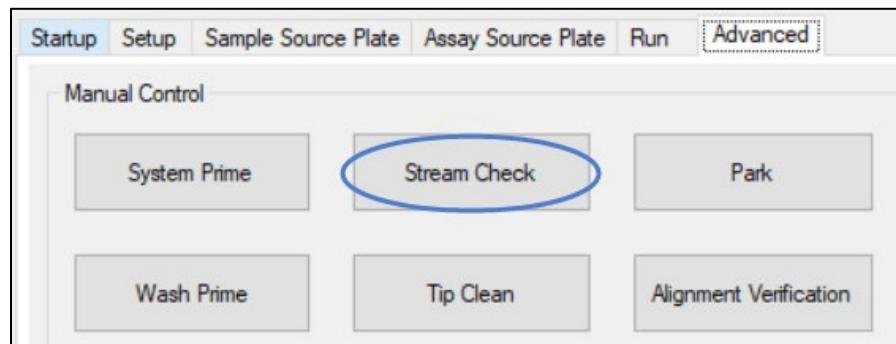

Figure 11. The [Stream Check] button under the *Advanced* tab.
**NOTE:** The other buttons on the *Advanced* tab located under the buttons shown in Figure 11 are reserved for use by a certified Field Service Engineer. Customers are discouraged from using these.